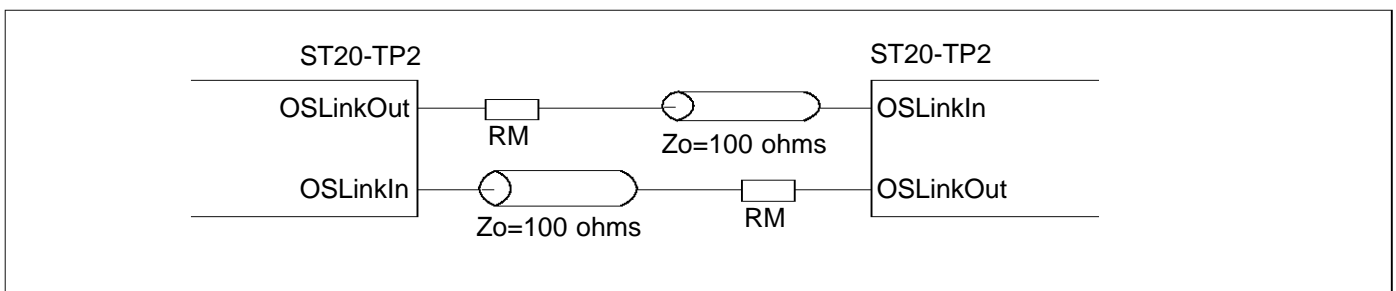
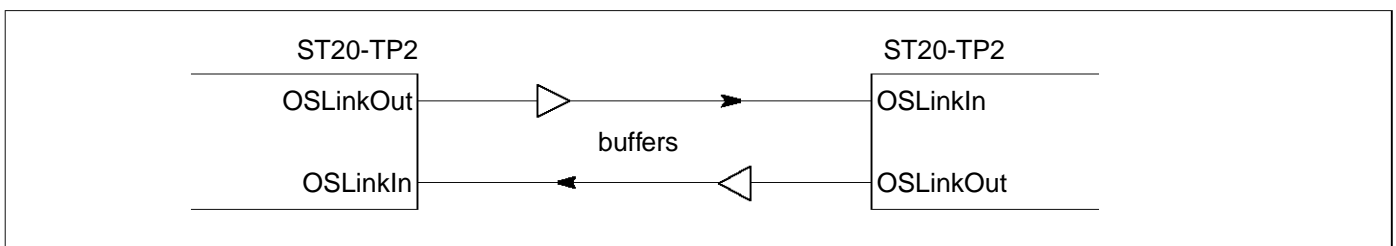

Figure 18.3 OS-Links connected by transmission line
Figure 18.4 OS-Links connected by buffers
may be made between devices separated by a distance of less than 300 mm. For longer distances a matched 100 ohm transmission line should be used with series matching resistors (RM), see Figure 18.3. When this is done the line delay is less than 0.4 bit time to ensure that the reflection returns before the next data bit is sent. Buffers may be used for very long transmissions, see Figure 18.4. If so, their overall propagation delay should be stable within the skew tolerance of the link, although the absolute value of the delay is immaterial.
For development support using the standard SGS-THOMSON interfaces the OS-Link should be series terminated as in Figure 18.3. Refer to the electrical specifications chapter for values of RM to match a 100 ohm transmission line.